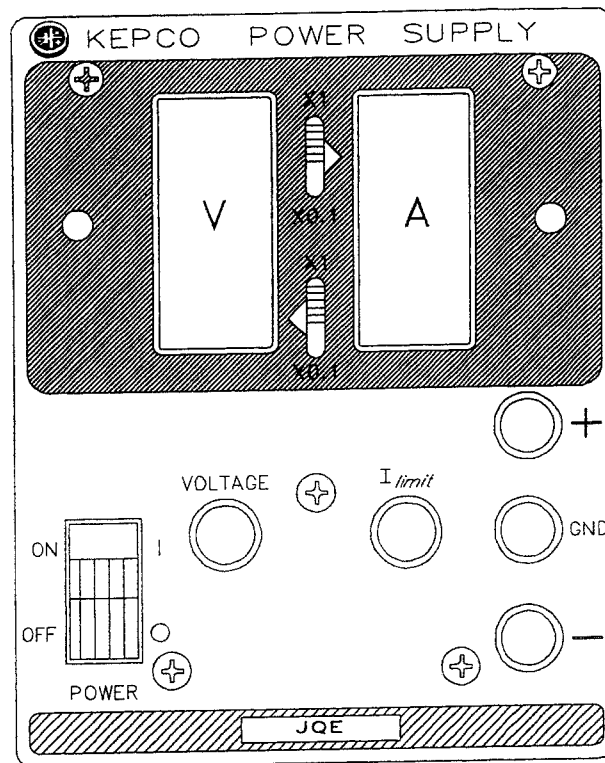
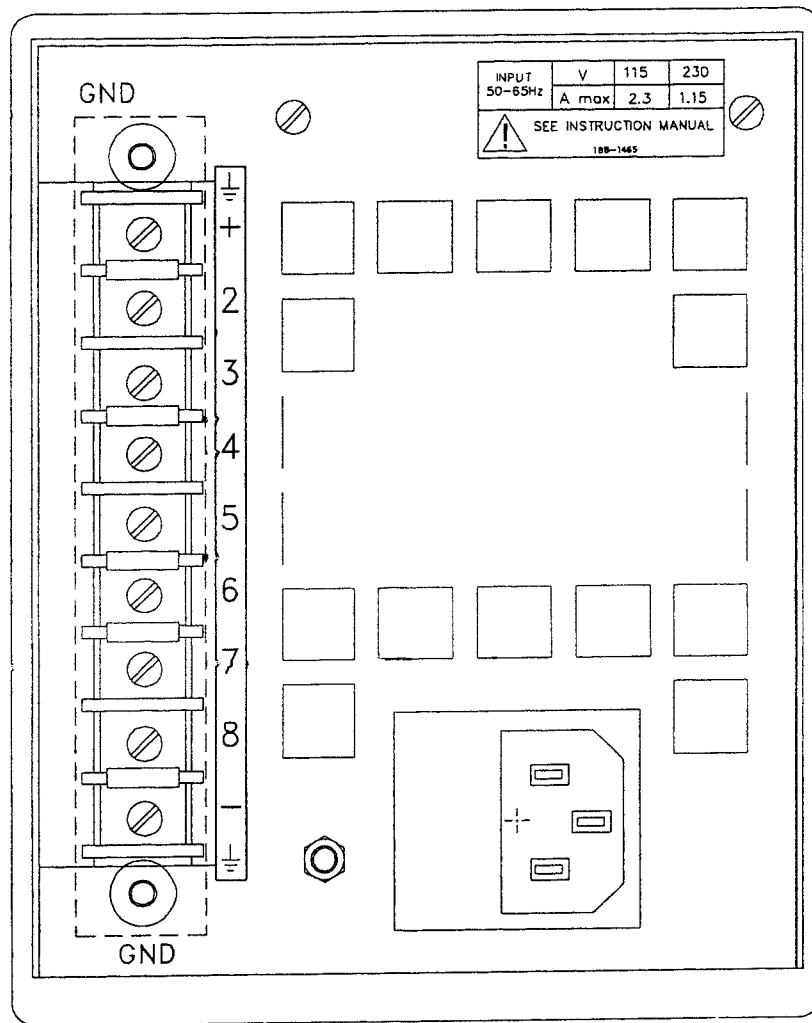

FIG. 2-3 CONTROLS AND TERMINATIONS, JQE 1/4 RACK GROUP FRONT
FIGURE 2-4 REAR TERMINATIONS JQE 1/4 RACK GROUP
- a) FRONT PANEL: Refer to FIG 2-3 and TABLE 2-2.
- b) REAR: Refer to FIG. 2-4 and TABLE 2-3.
- 2-9 A simple operating check after unpacking and before permanent installation is advisable, to ascertain whether the power supply has suffered shipping damage. Please refer to FIG. 2-3 and FIG. 2-4 for the location of the operating controls and output terminals.